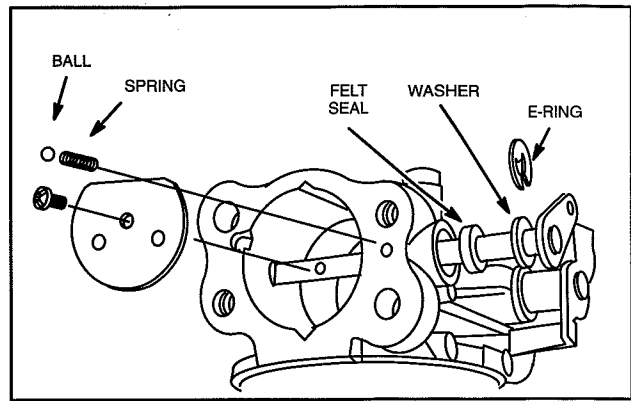

Fig. 19 – Install Choke Shaft
12. Install choke plate as shown, Fig. 19.